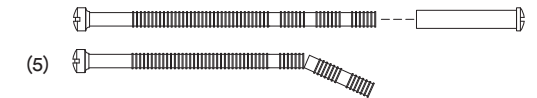

Figure 4.
- 4.1. If required, shorten cut-off screws to suit door thickness. (Figure 4)